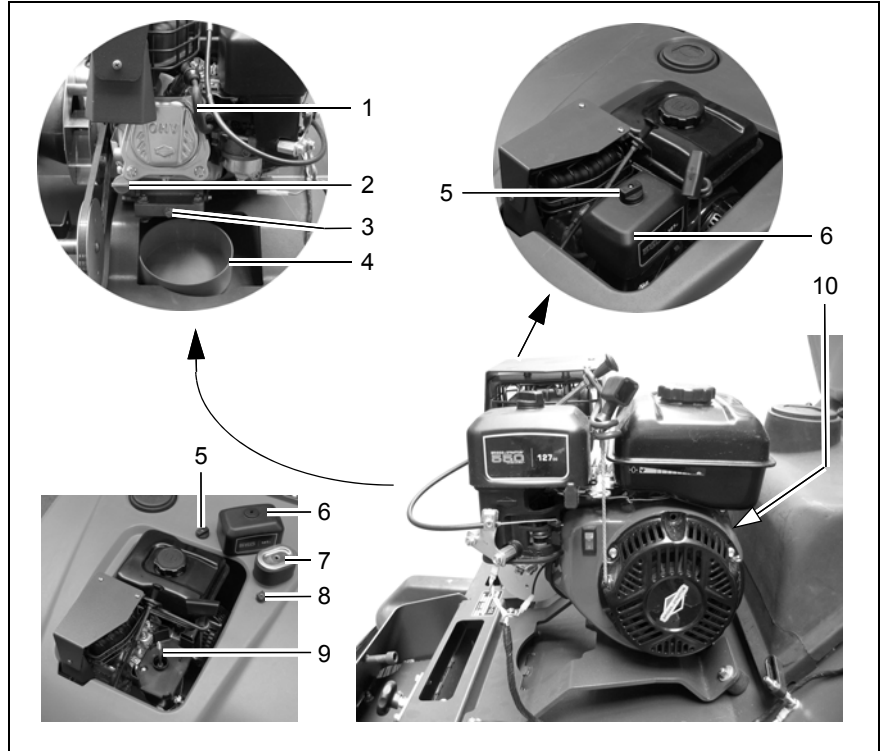

Fig. 14
4. Clean the area around the oil filling neck (Fig. 14/2).
5. Unscrew the screw plug with dipstick (Fig. 14/2) counterclockwise and check the oil level. The oil level must be in the range between H and L.
8. Screw the screw plug with dipstick (Fig. 14/2) back in, clockwise.
5. Turn the screw plug with dipstick (Fig. 14/2) counterclockwise to remove it.
9. Screw the screw plug with dipstick (Fig. 14/2) back in, clockwise.
2. Position an appropriate collecting vessel (Fig. 14/4) under the oil drain bolt (Fig. 14/3).
3. Unscrew the oil drain bolt (Fig. 14/3) and collect the escaping oil in the vessel (Fig. 14/4).
4. Clean the oil drain bolt (Fig. 14/3) with a clean cloth.
5. Remove the collecting vessel (Fig. 14/4) and dispose of the waste oil.
6. Screw the oil drain bolt (Fig. 14/3) back in.
The oil sensor (Fig. 14/10) installed serves as a safety feature to protect the engine from damage due to insufficient oil.
2. Unscrew the fastening nut (Fig. 14/5) securing the air filter cover (Fig. 14/6).
3. Remove the air filter cover (Fig. 14/6).
4. Unscrew the fastening nut (Fig. 14/8) securing the air filter.
5. Pull the air filter (Fig. 14/7) from the threaded pin (Fig. 14/9).
1. Install the cleaned or new air filter (Fig. 14/7) on the threaded pin (Fig. 14/9).
2. Fix the air filter (Fig. 14/7) by screwing the fastening nut (Fig. 14/8) for the air filter on the threaded pin (Fig. 14/9).
3. Replace the air filter cover (Fig. 14/6).
4. Screw the fastening nut (Fig. 14/5) for the air filter cover (Fig. 14/6) on the threaded pin (Fig. 14/9).